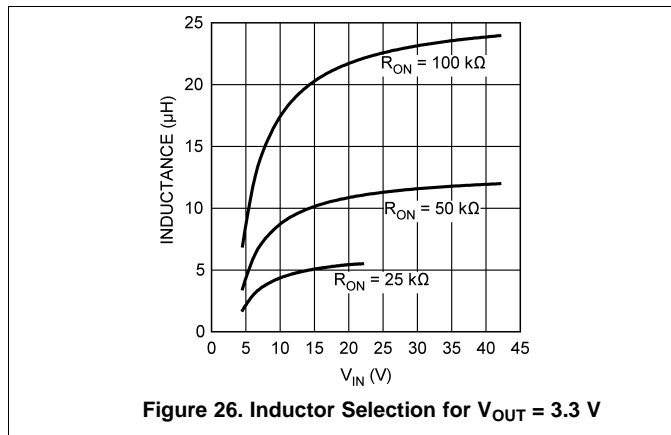
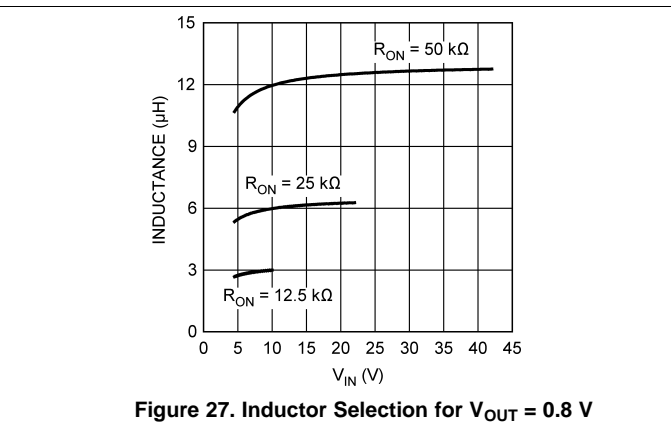

Figure 26. Inductor Selection for VOUT = 3.3 V
Figure 27. Inductor Selection for VOUT = 0.8 V
Figure 26 and Figure 27 show curves on inductor selection for various VOUT and RON. For small RON, according to (8), VIN is limited. Some curves are therefore limited as shown in the figures.